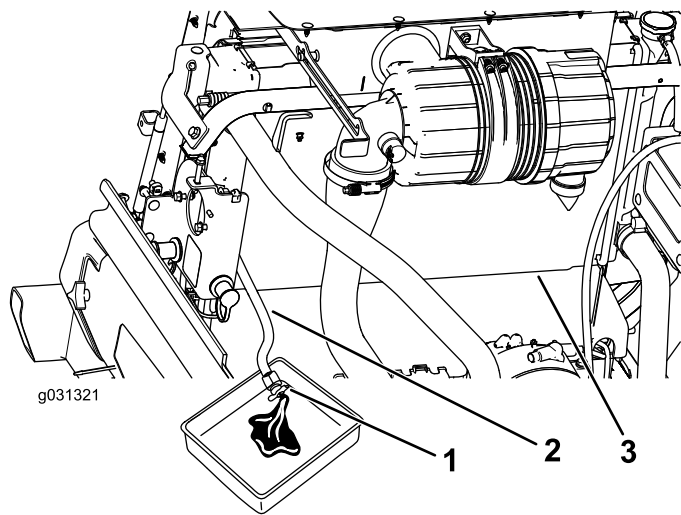

Figure 121
3. With the radiator drain hose placed in a drain pan, open the drain valve on the radiator hose and drain the fluid into a drain pan (Figure 121).
- Close the valve on the radiator drain hose (Figure 121).